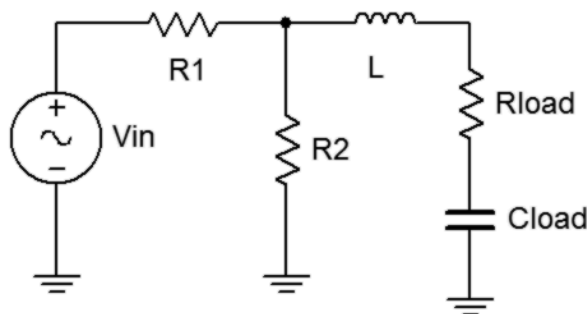

Figure 11.3
6. To verify that Thevenin's Theorem also works with an inductive source and a complex load, repeat steps 1 through 5 in like manner but using figure 11.3 with  $R_1=1.5\ \text{k}\Omega$ ,  $R_2=2.2\ \text{k}\Omega$ ,  $L=10\ \text{mH}$ ,  $R_{\text{load}}=1\ \text{k}\Omega$  with  $C_{\text{load}}=100\ \text{nF}$ . Set the generator to a 10 kHz sine wave at 2 V p-p. Record results in Tables 11.3 and 11.4.